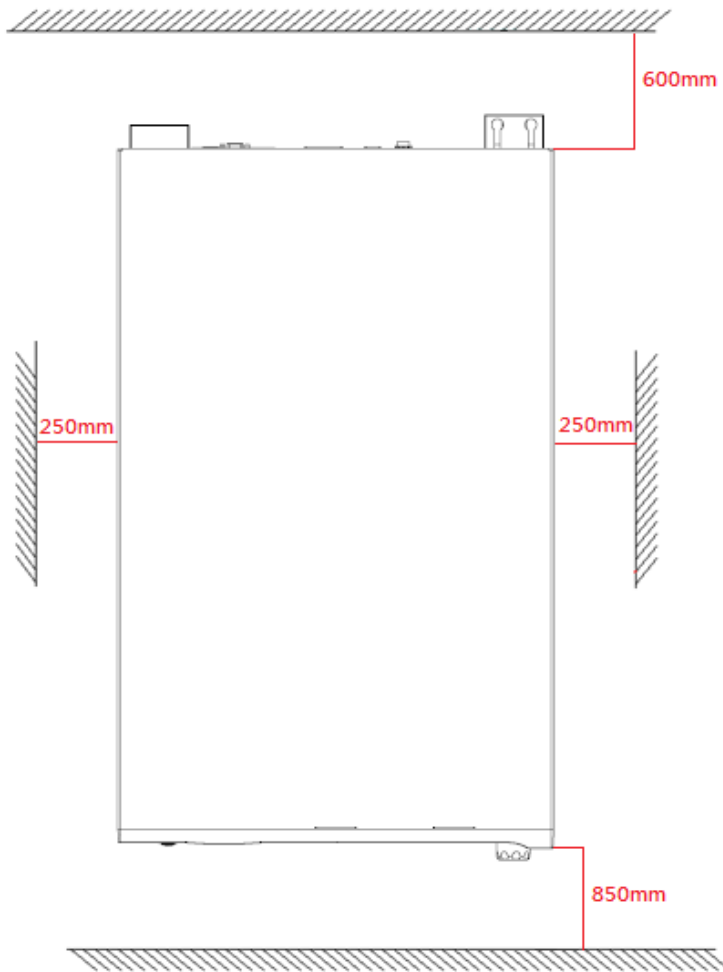

Figure 2.1 The required space for the equipment.
2. Leave sufficient space around the equipment for ventilation and maintenance (refer to Figure 2.1). Do not block the cooling fan opening in case of the internal temperature getting too high and having bad impact on product life.